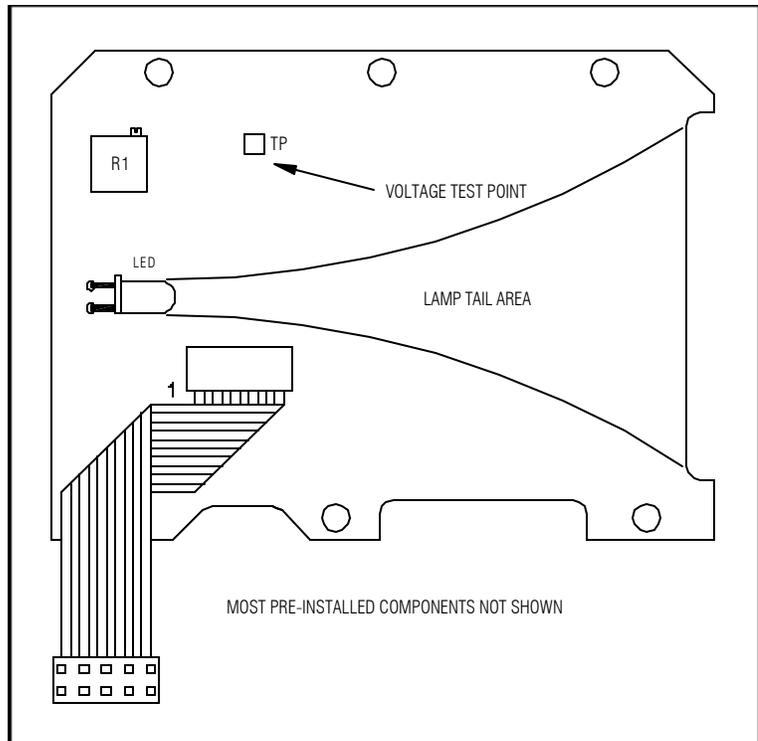

Figure 33 Display PC board assembly already assembled by RMI.
11. Be sure the ribbon cable is folded as shown in Figure 33. The ribbon should go right across the top of the switch and flush to the back of the faceplate assembly and then turn down past the switch.